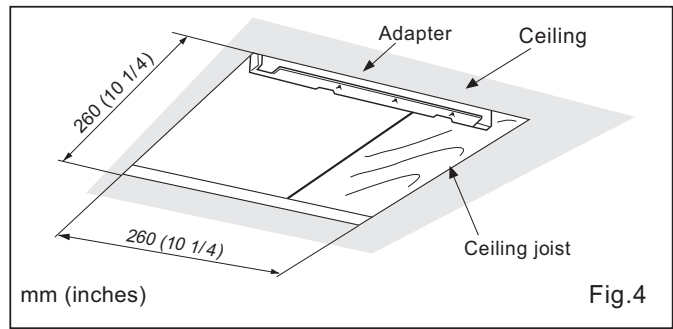

Fig.4
6. Remove ceiling section. (Fig.4)
- (4) Before installation, provide inspection and maintenance access at a location that will not interfere with installation work shown in installation II.
- (5) First, remove ceiling section according to Fig.4 of page 7.
- (6) Install ventilating fan.
- (1) Inspect duct work and wiring before proceeding with installation.
- (2) Remove ceiling section according to Fig.4 of page 7.
- (3) Install ventilating fan.